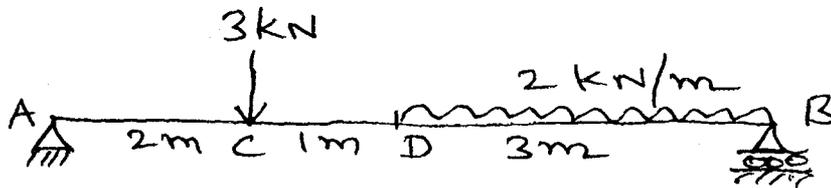

Fig. Q. 12 (a)
12. (a) Draw the shear force and bending moment diagrams for the beam shown in Fig. Q 12 (a)